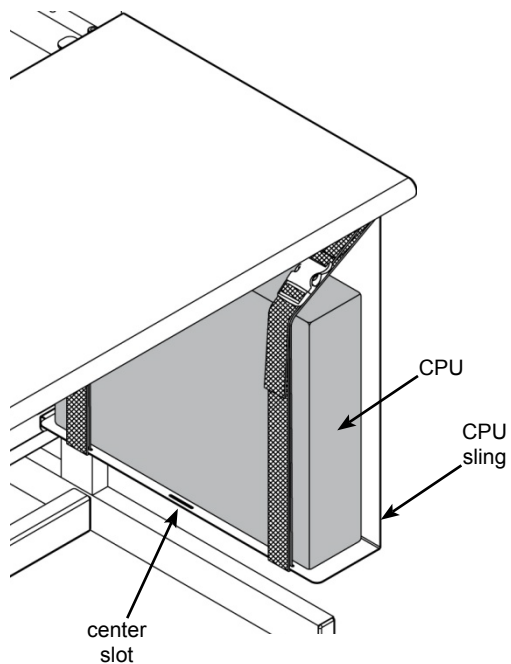

Figure 3A
2. Make sure the CPU will be supported by both straps. Tighten the straps around the CPU while keeping the buckles positioned as high as possible to avoid interference. **Figure 3A.**
Note: The center slot can be used for better support of smaller profile CPU's. If necessary, take the rear strap out of the rear slot and thread into the center slot shown in **Figure 3A**. Thread the strap as shown in **Figure 3B**.